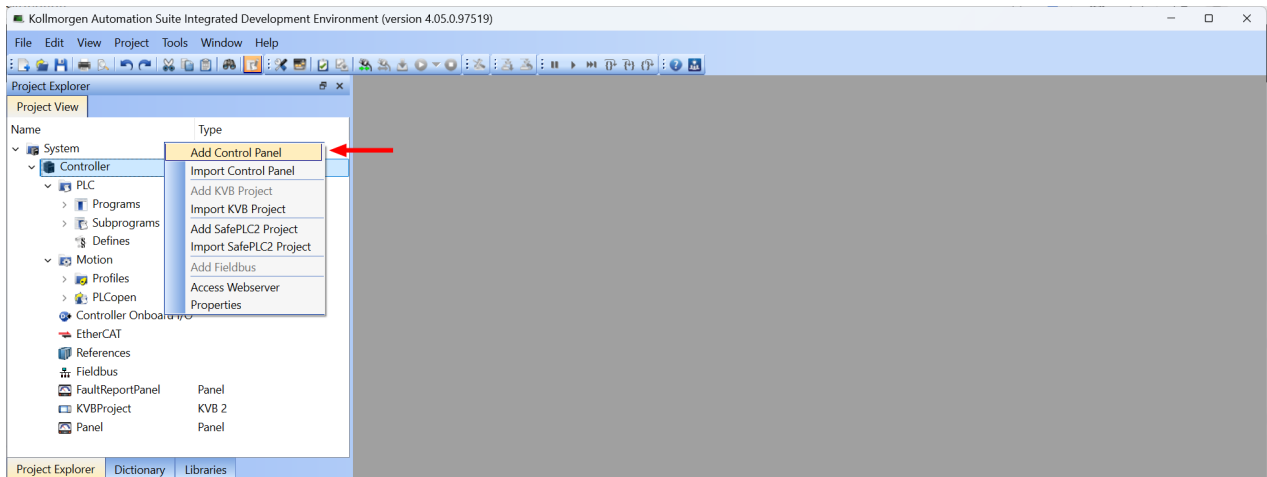

Figure 2-1: Add Control Panel option
1. In the Project Explorer tree, right-click the Controller and select **Add Control Panel**. (Figure 2-1)